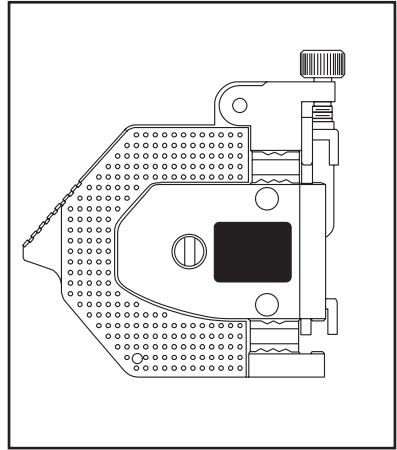

Figure 3-9. Pump in Closed Position
3. Make sure the pump is in the closed position. Refer to Figure 3-9.